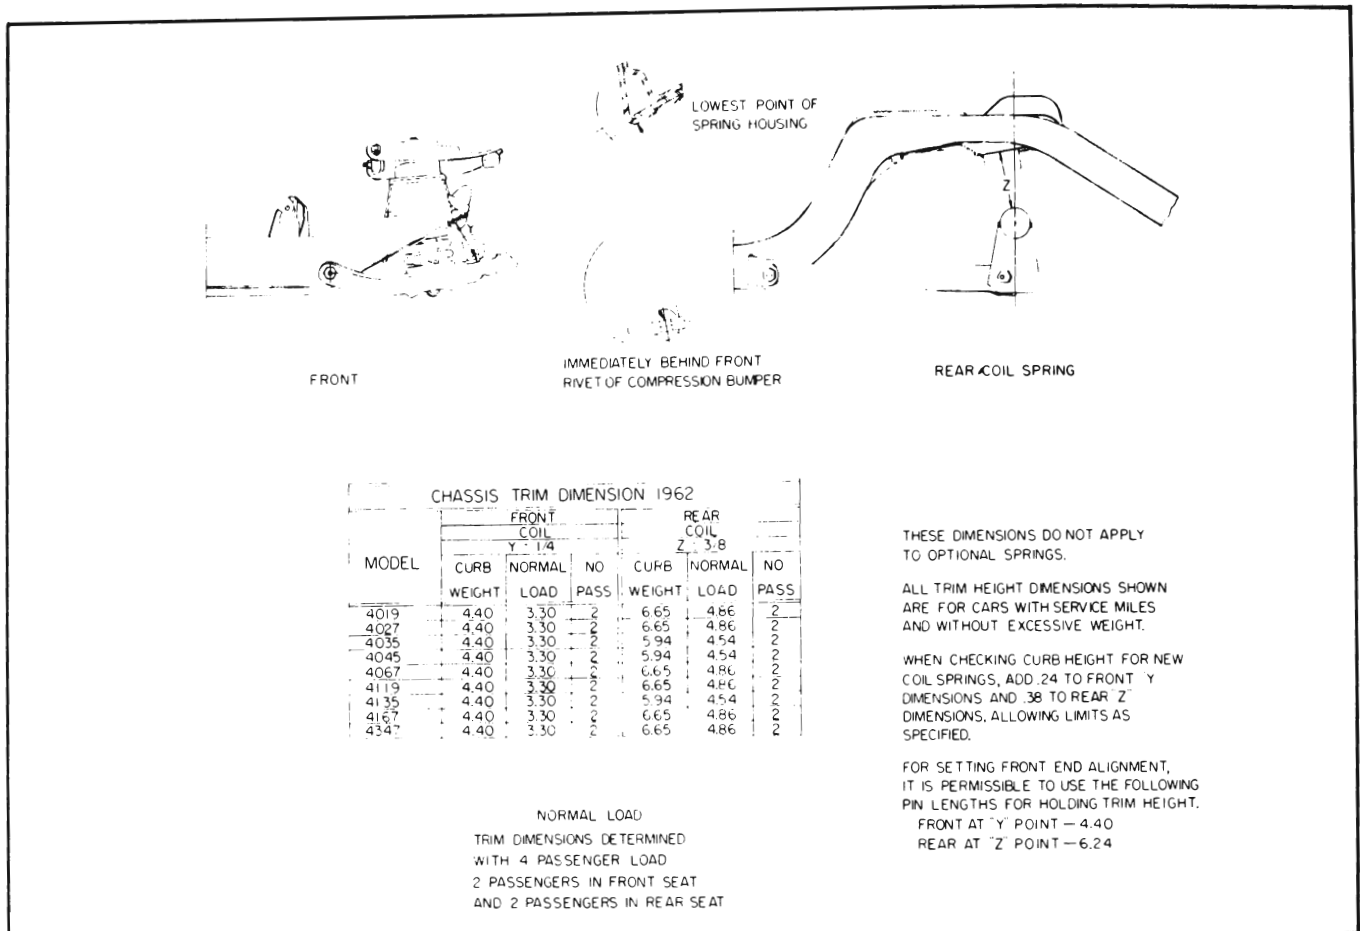

Figure 7-14—Trim Height Chart
1. Front Springs. On a car having service miles, the front spring trim dimension "Y" should be as shown in Figure 7-14 chart.
2. Rear Springs. On a car having service miles, the rear spring trim dimensions should be as shown on Figure 7-14 chart.